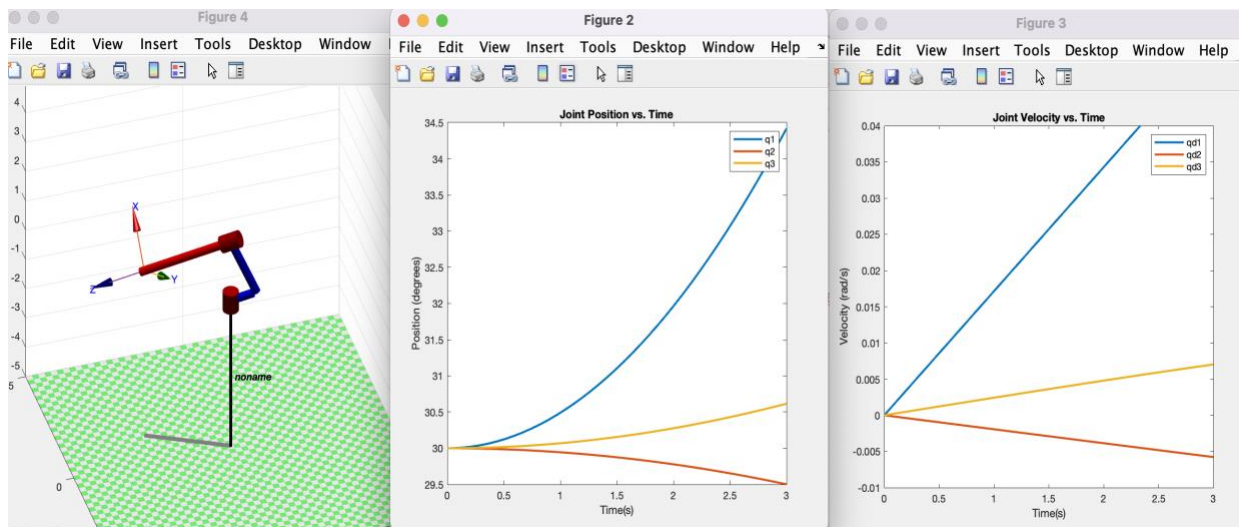

Figure 5
**Step 5.** After you click on 'Get Dynamics of System', you will get the results along with the plots. As shown in Figure 5 and 6.